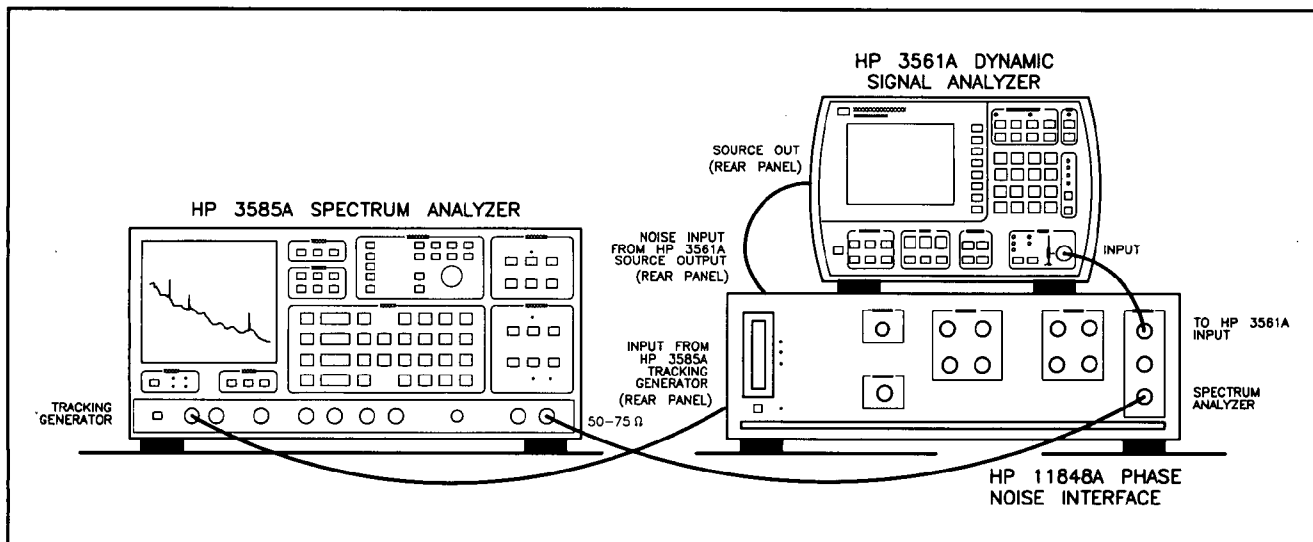

Figure 26. Second Option 1 Calibration Setup
11. Make the cable connections as prompted on the display and as shown in part in Figure 26.
12. Press the **Option 1** softkey and continue with the cable connections as show in Figure 26.